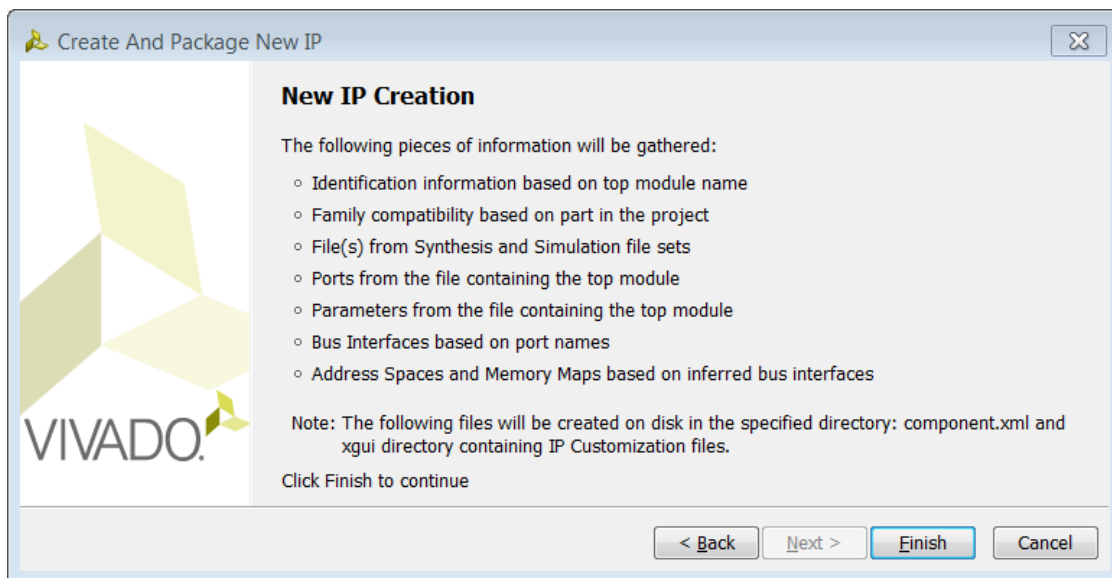

Figure 149: Begin IP Creation Page
- The New IP Creation page displays, showing what work is performed during the IP packaging flow (FIGURE 149).